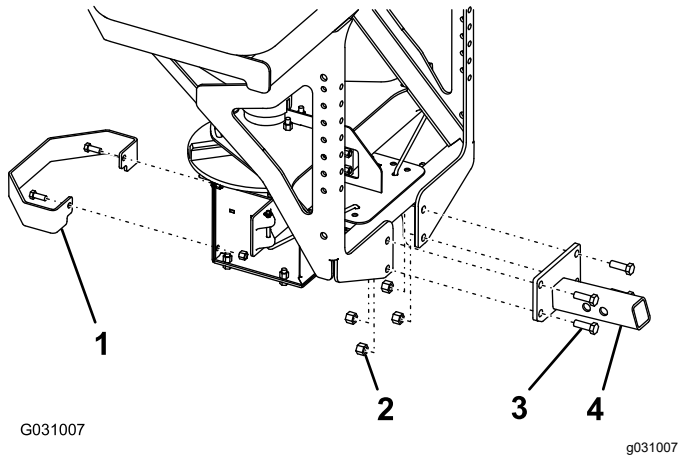

Figure 4
1. Mount the slide-in attachment to the spreader using 4 bolts (1/2 inch) and locknuts (1/2 inch) and torque the bolts to 76 Nm (56 ft-lb) as shown in Figure 4.
2. Mount the spinner guard to the spreader using the 2 existing bolts (3/8 inch) and locknuts (3/8 inch) and torque the bolts to 27 Nm (19.7 ft-lb) as shown in Figure 4.